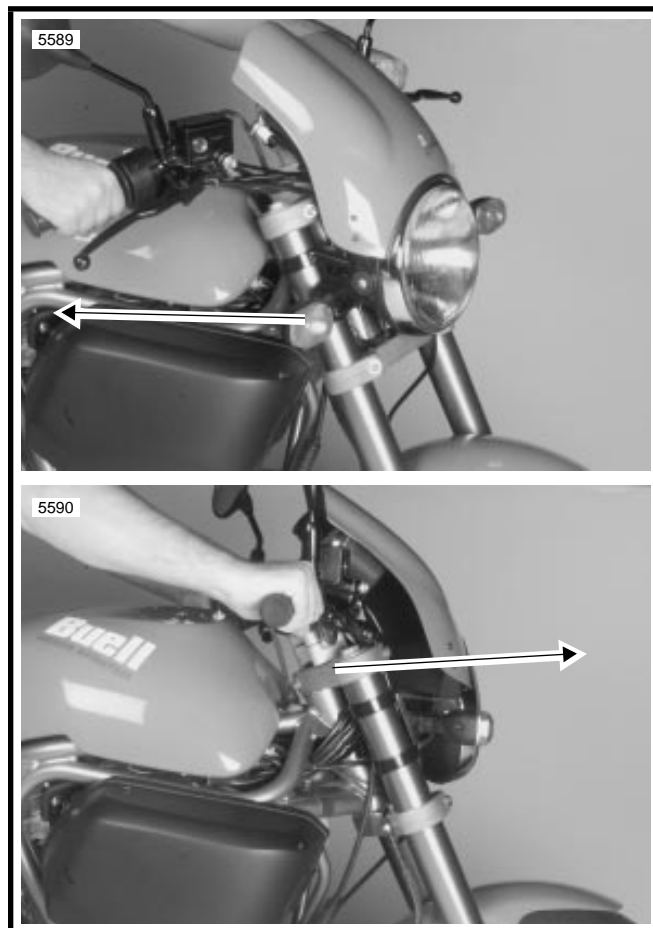

Figure 1-46. Testing Handlebars
1. See Figure 1-46. Check steering motion range to both fork stops. Each handlebar should be spaced equally between the windscreen and fuel tank and parts should not make contact.